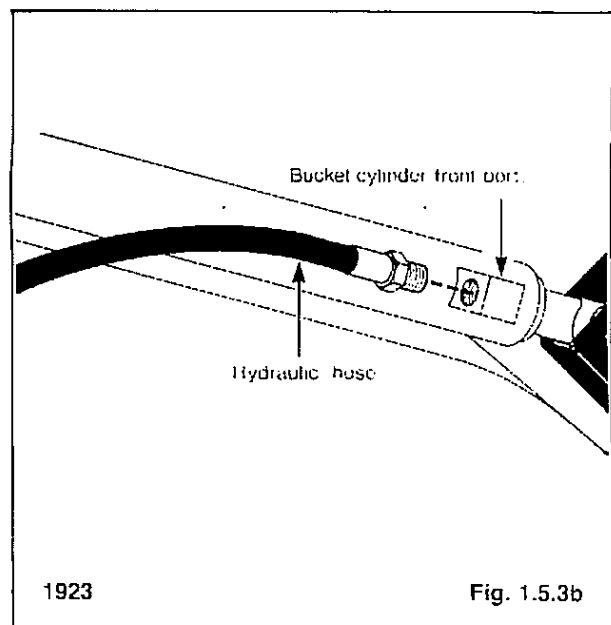

Fig. 1.5.3b
4. With the engine off, disconnect the hydraulic hose from the bucket cylinder front port (fig. 1.5.3b). Cap the hose.